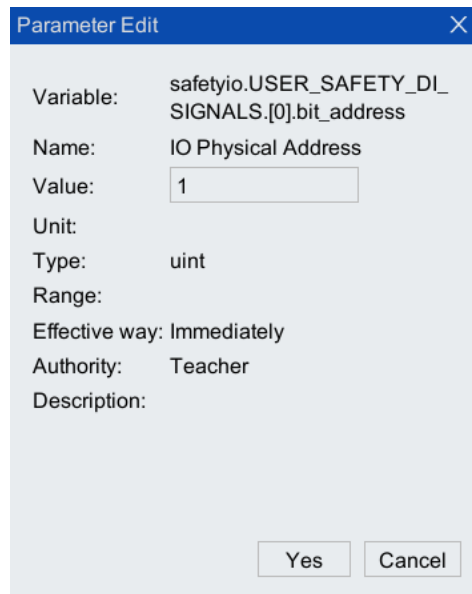

Figure 3-3 [Bit Address] configuration interface
Step4. Click to select the row of [bit_address (IO physical address)], click <Edit>, the configuration interface as shown in Figure 3-3 will pop up, configure the parameter in [Value] as the DI connected to the anti-collision device, for example: anti-collision device When the collider is connected to DI1, it is configured as "1".